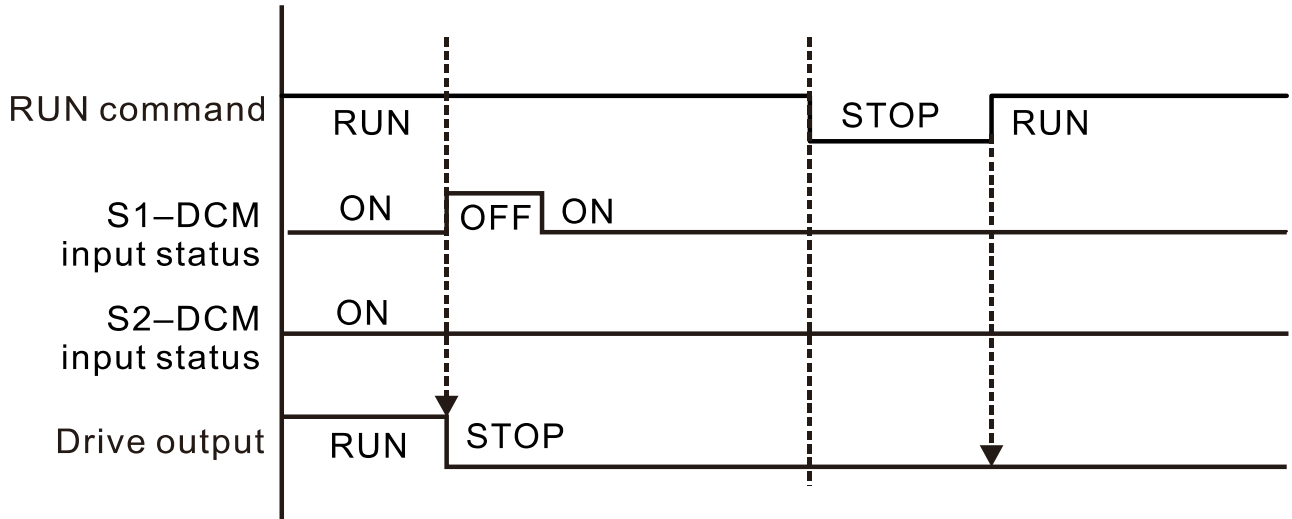

Fig.17-8
As shown in Fig. 17-8, when S1-DCM is OFF during operation (STO function is required) and S2-DCM is ON (STO function is not required), the drive stops outputting and the keypad shows the STL1 error. However, you cannot reset the STL1 error even if the S1 status is restored (ON) regardless of the parameter setting. You must cycle the power to reset and to restore the drive to the normal standby state.